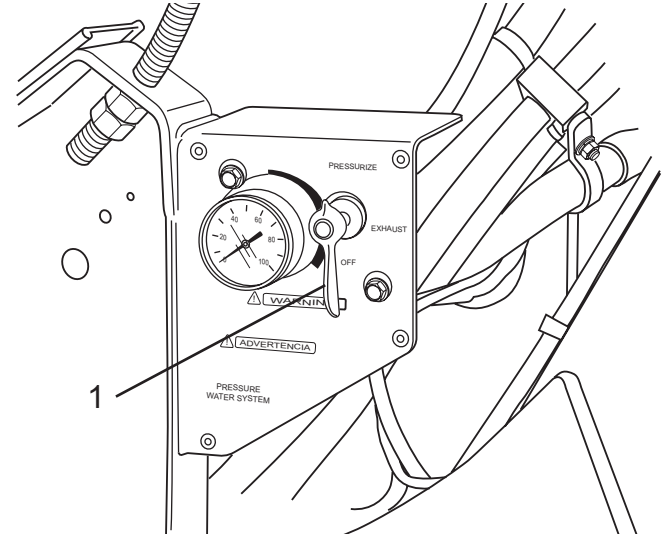

Figure 96
2. After pressure in the water tank has been completely exhausted, turn the air pressure control valve to the OFF position (Figure 96, Item 1).